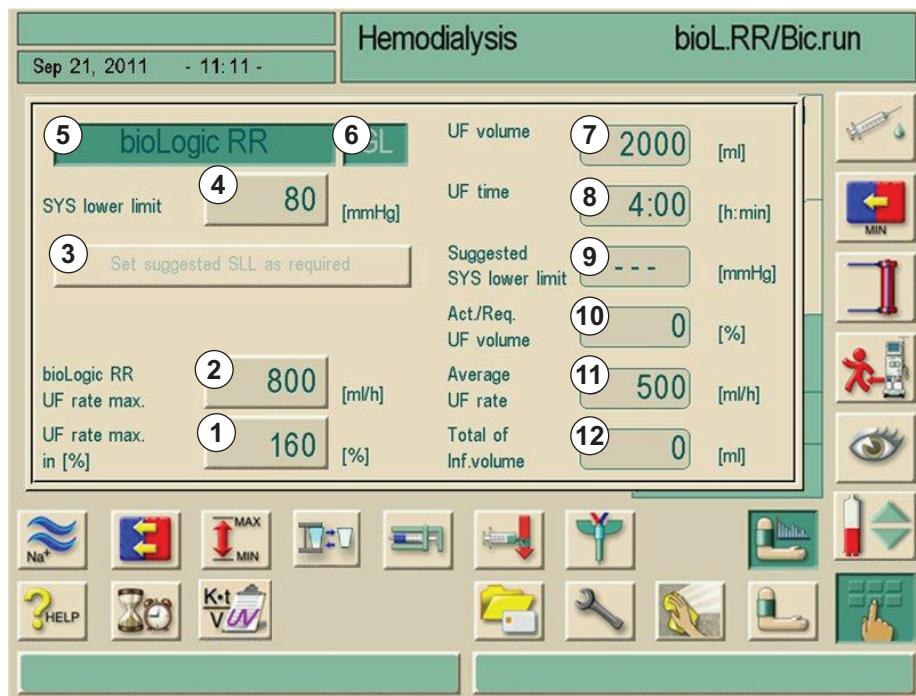

Fig. 11-11 "bioLogic RR Parameter" screen
Additional manual blood pressure measurements can be performed, e.g. during the longer time intervals, and are taken into account by the algorithm. If the measured systolic blood pressure falls to a value of  $1.25 \times \text{SLL}$  (systolic lower limit, see Fig. 11-11 "bioLogic RR Parameter" screen (187), 4), blood pressure measurement interval is increased to 5 minutes. If the measured systolic blood pressure falls below SLL, UF rate is reduced immediately until blood pressure increases above this lower limit. The option bioLogic RR Comfort is only available in combination with the option ABPM.
1. Touch the "Set suggested SLL as required" field. The value shown on button 4, Fig. 11-11 "bioLogic RR Parameter" screen (187), is accepted.
2. Touch button 6, Fig. 11-11 "bioLogic RR Parameter" screen (187).